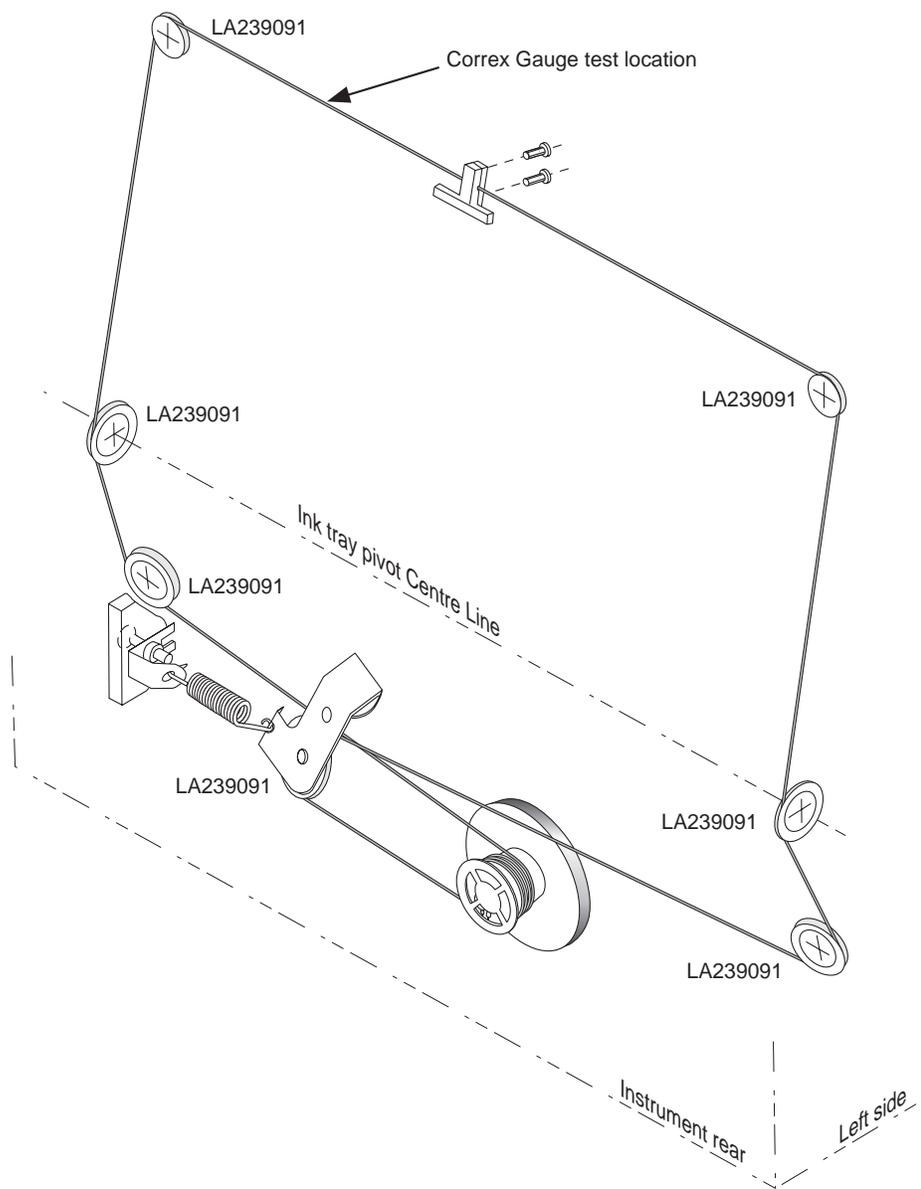

Figure 5.4.5a Ribbon cartridge carriage cord routing
At a point halfway between the right-hand side of the case and the carriage (figure 5.4.5a*) use the Correx gauge to deflect the cord by 10 mm. The reading should lie between 440 and 500 cN. If the reading is not within this range, release the clamp, and adjust the tension using the capstan. Tighten the clamp and re-check. Repeat until the correct reading is achieved.
*Note: For the sake of clarity, figure 5.4.5a shows the cord routing with the writing system open. This check must, however, be carried out with the writing system closed.